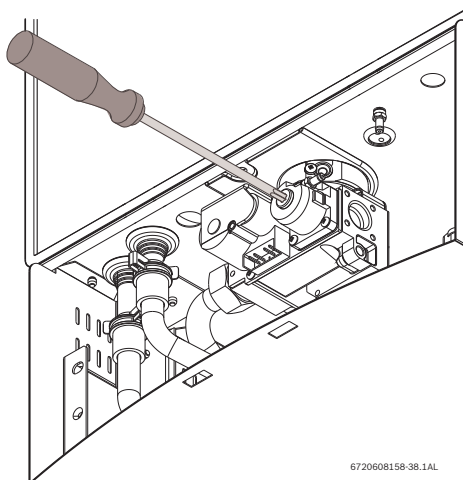

Fig. 58 Adjusting P2 CO₂ level
- ▶ Remove yellow painted #40 Torx cover from the front of the gas valve. (Fig. 58) A plastic #40 Torx screw will be revealed.